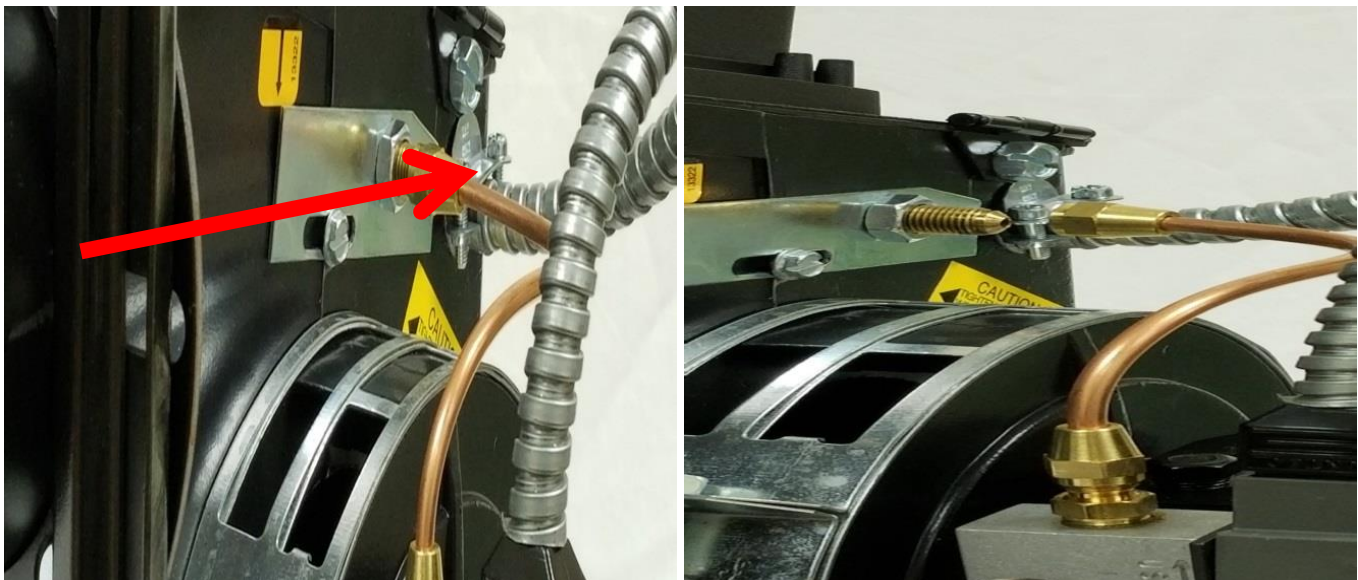

Figure 8 EH/EHASR Oil Line Removal
2. Loosen and disconnect the brass nut of the copper oil line assembly from the oil gun assembly fitting and rotate the oil line out of the way (Figure 8).